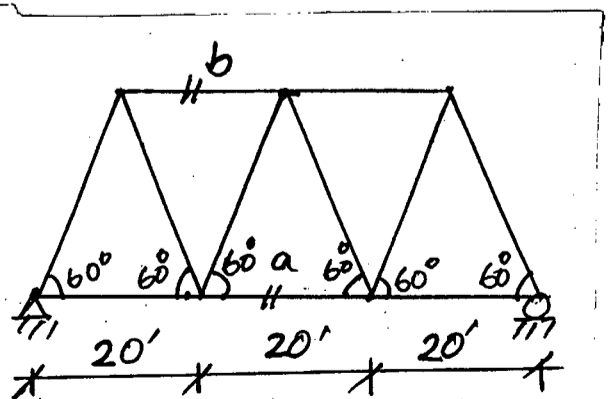

Figure 14
- (b) For the truss shown in Figure 14, draw influence line diagram for bar force in members "a" and "b". **(16)**